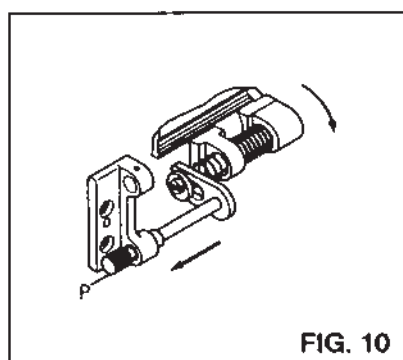

FIG. 10
2. For looper threading, pull out the lever "P" of looper set as the arrow direction then thread them properly. (Fig. 10)